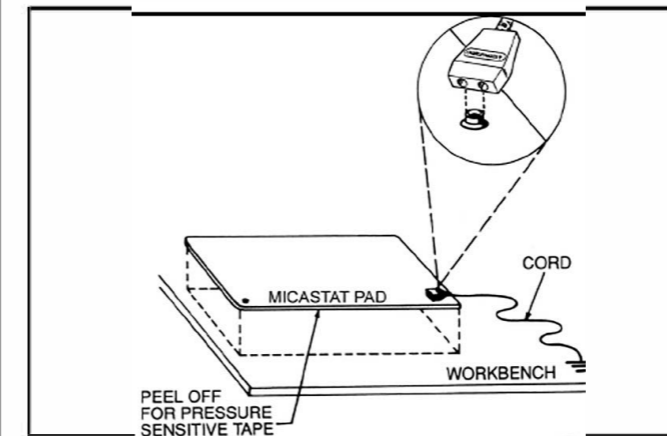

Figure 9. Proper installation of Micastat® Pad.
5. Place the electrodes in position A as shown in Rtt test diagram (Fig. 9). Set the meter selector switch to 100V.